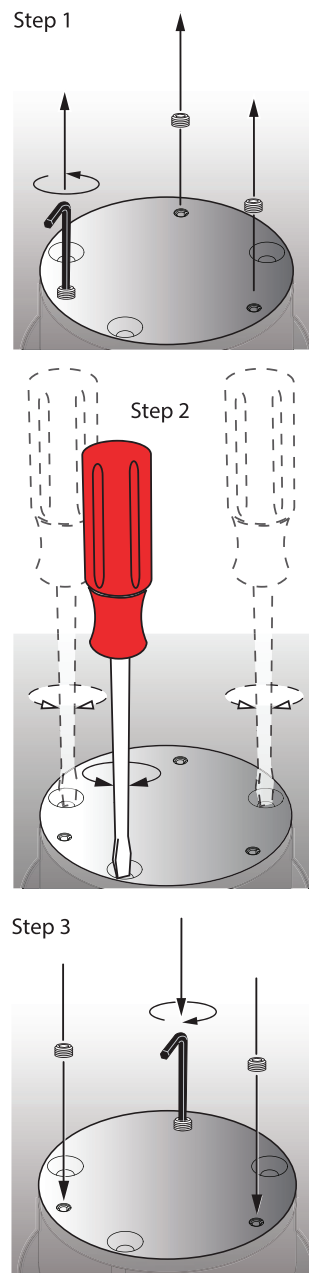

FIGURE 2. Pavement Leveling
- Place the sensor onto the top of the Pavement Sensor Housing. Install mounting screws through the sensor to secure it to the Height Adjustment Ring. The top of the sensor has three protective Allen-head set screws, under which are located three access holes to reach the height adjustment screws; remove these screws. Adjust the height until the exposed surface of the sensor is flush with the surrounding pavement such that it avoids melt pooling during operation. As needed, rotate the three adjustment screws to the left to raise the height adjusting ring or to the right to lower the ring, and then replace the three protective set screws. See Figure 2.